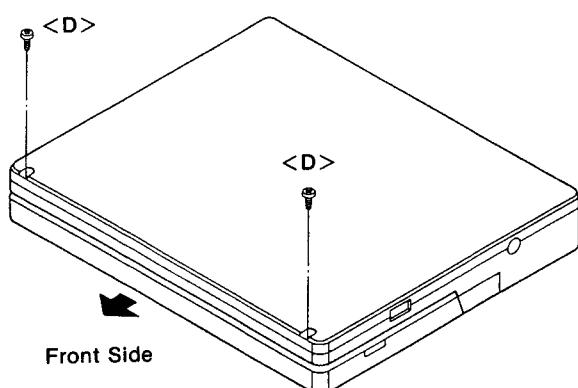

Figure 5
- (7) Turn over the computer and remove two screws <D> ($3\phi \times 10\text{mm}$) as shown in Figure 5.